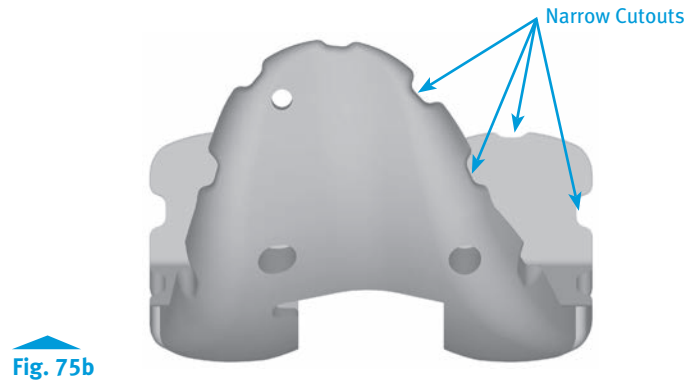

Fig. 75b
- Femoral sizes 3 through 11 are provided in two profiles, Standard and Narrow. The size 3 through 11 Standard Femoral Provisionals have intermittent cutouts around the periphery, with the inner dimension representing the outer profile of the Narrow femoral implant and the outer dimension representing the outer profile of the Standard femoral implant (Fig. 75b). Femoral sizes 1 and 2 are provided in one profile, Narrow; and Femoral size 12 provided in one profile, Standard. Thus the size 1, 2 and 12 Femoral Provisionals do not have intermittent cutouts. Care should be taken to use the appropriate Standard or Narrow implant as is related to side (left or right) and size based on the provisional fit and ROM provided during the trialing phase.